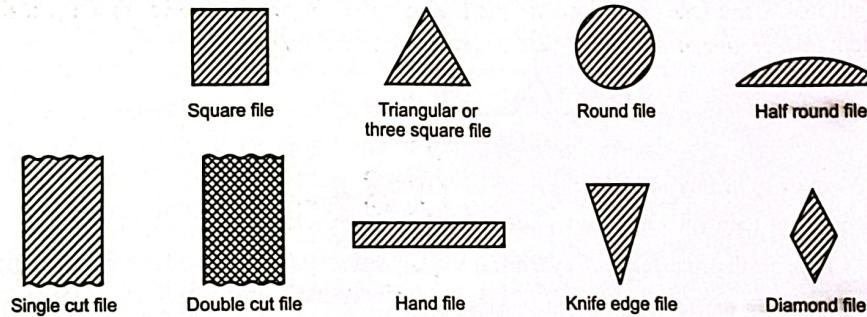

Fig. 1.37. Cross-sections of files.
**2. Classification on the basis of shape and size :** Files are available in various sizes and shapes. The length of files vary from 4" to 14" and the shapes are available in flat, square, round, triangular, half round files etc. as shown in Fig. 1.37.